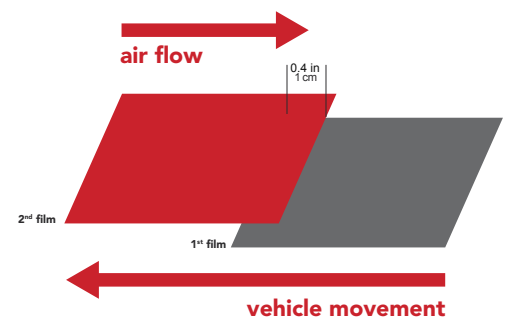

Figure 20
- Vertical overlapping on a mobile surface: application is always carried out from back to front of the vehicle; the second film will overlap the first one, etc. (FIG. 20)